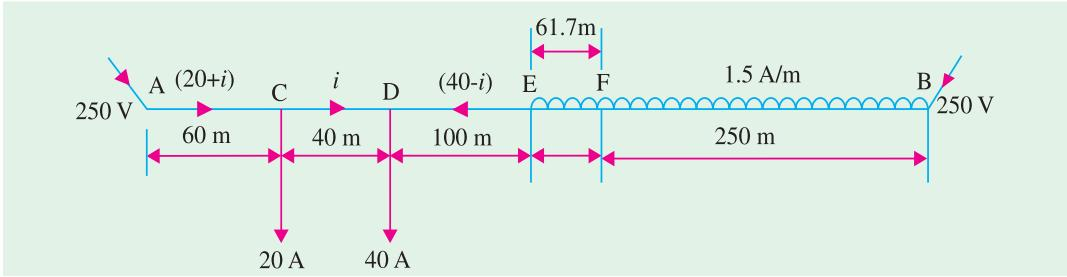

Fig. 40.27
**Solution.** In Fig. 40.27, let D be the point of minimum potential and let  $i$  be the current in distributor section CD. Then, current supplied to load D from end B is  $(40 - i)$ . If  $r$  is the resistance of the distributor/metres (both go and return), then